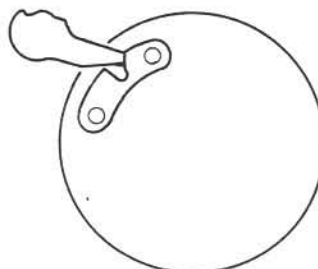

Fig. 29-2
2. The 1st curtain hook lever (S120) hooks the 1st curtain gear. Refer to Fig. 29-2.